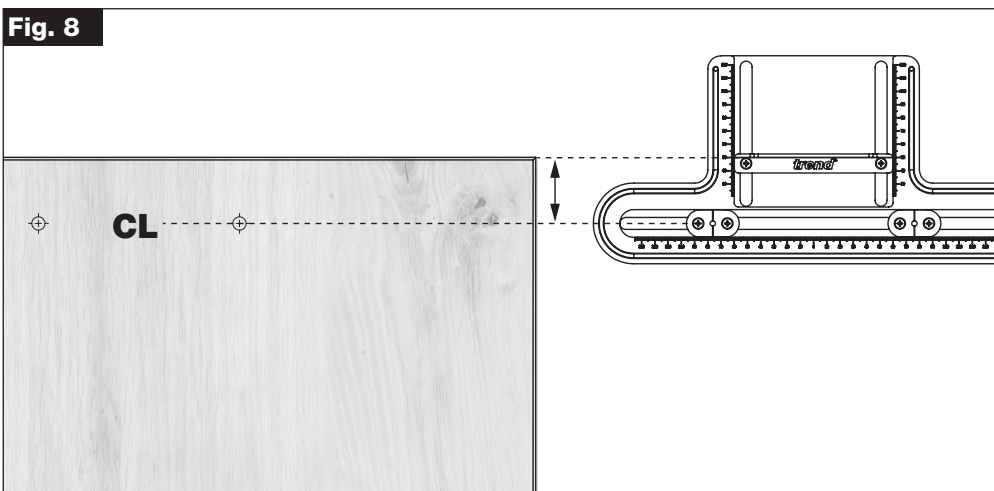

Fig. 9
- Tighten the Long Guide M4 Machine Screws (Fig. 9).